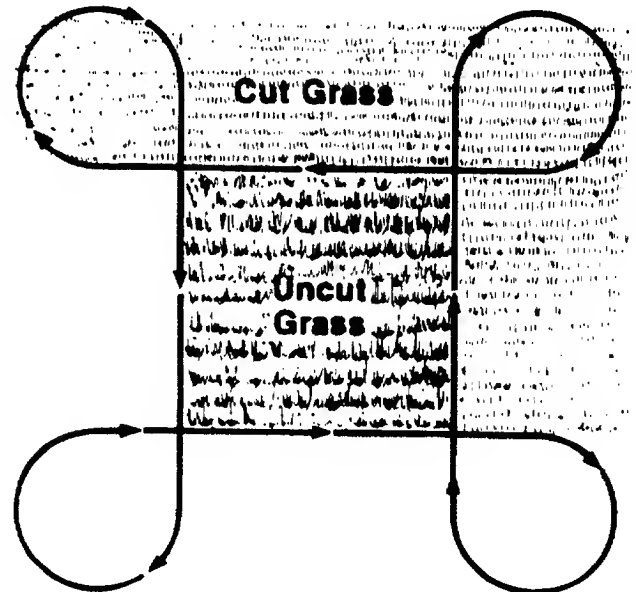

Figure 28
4. Follow the mowing procedure shown in Figure 28.